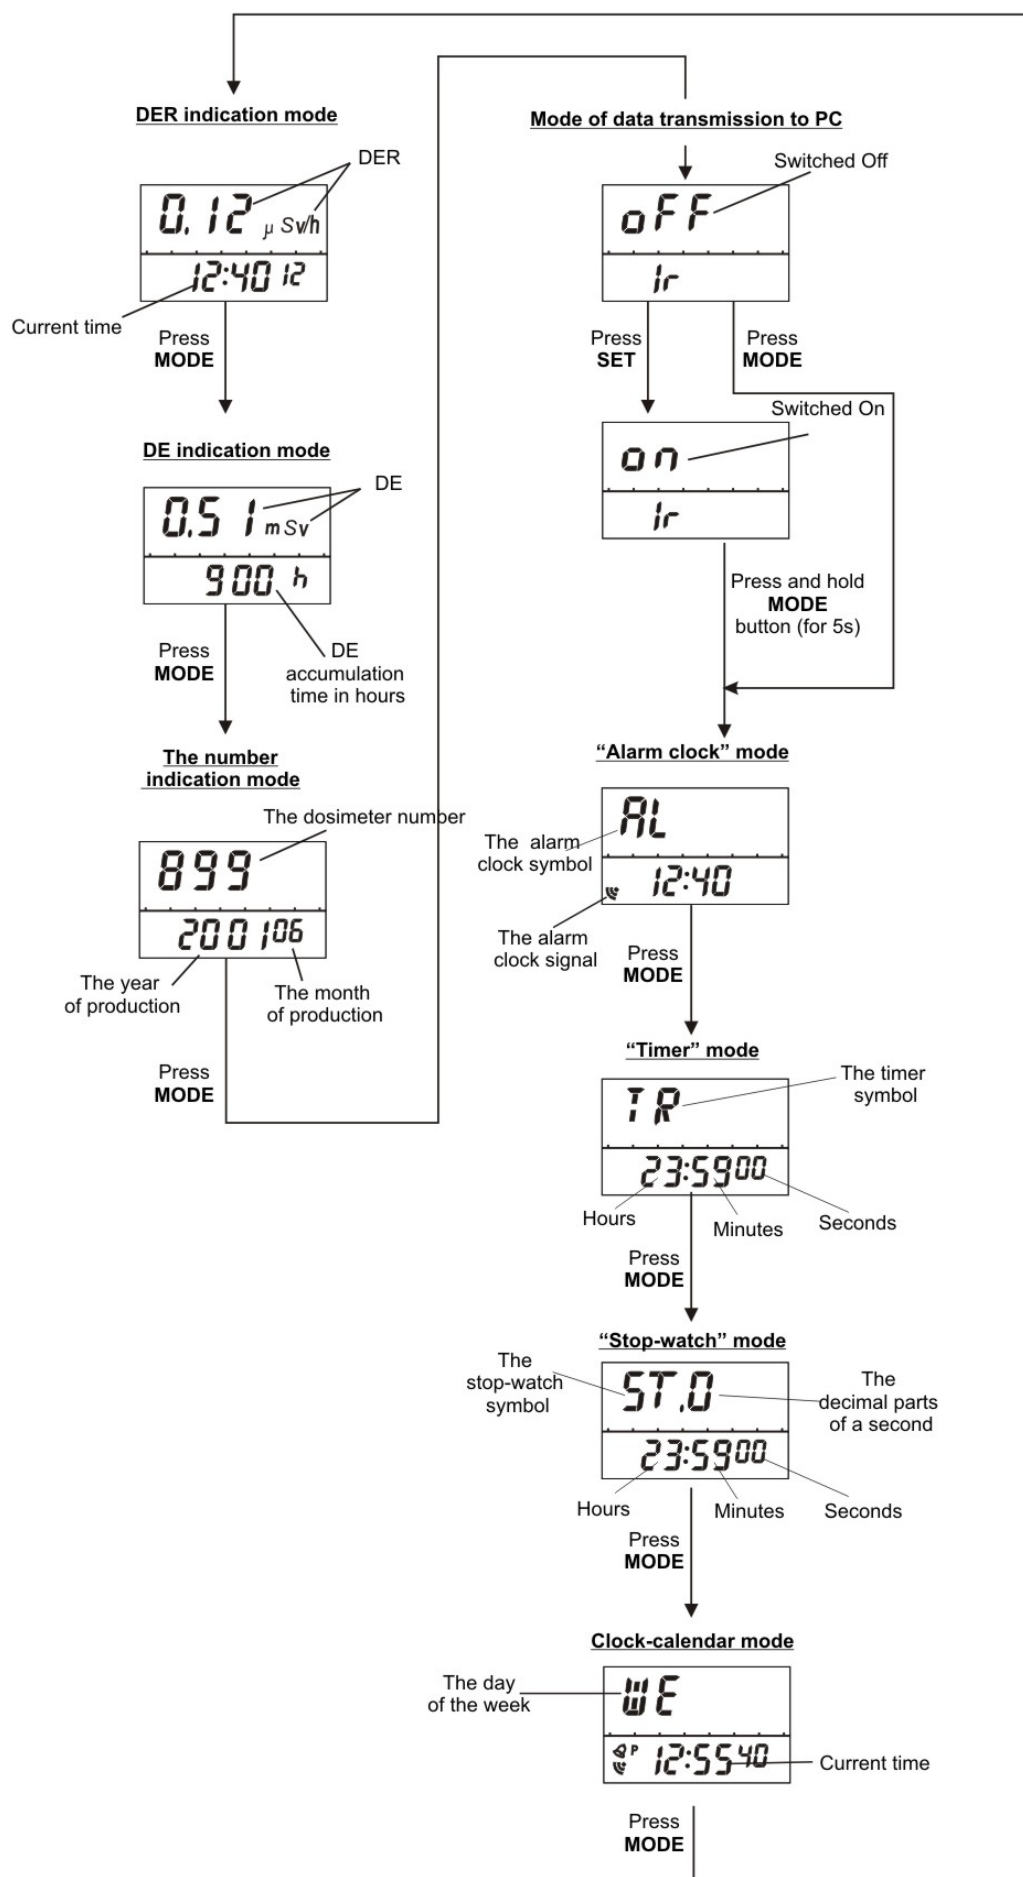

Figure 2.1 - Choice of operating mode (indication) of the dosimeter
In the DER mode (figure 2.1) the following parameters are indicated on the LCD:
In the DE mode (figure 2.1) the following parameters are indicated on the LCD:
- choose the mode of data transmission to PC using the MODE button (figure 2.1);
Press and release the SET button to display the year and the month in the “**clock-calendar**” mode (Figure 2.1).